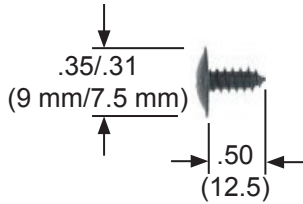

Figure 13
1. A #10 pan head wood screw should be used to properly secure the overlay panel (See Figure 13). A quantity of 16 screws are supplied with the unit in the literature pack.